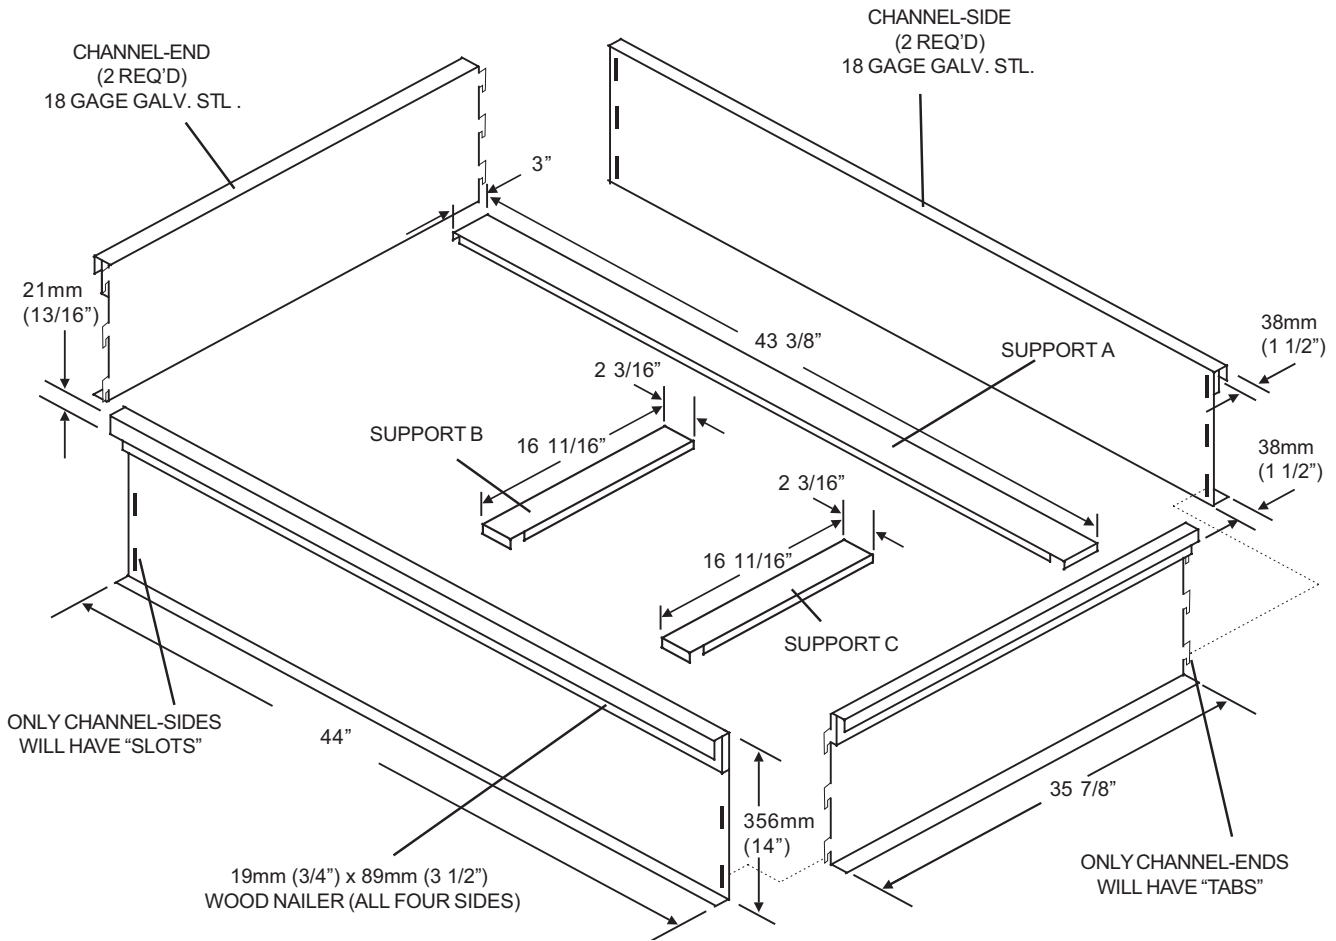

Figure 4. BAYCURB050A Component Drawing
4. See Figure 4, page 4, for components of curb.
3. Set supports A, B, and C onto channel sides and channel ends as shown in Figure 4 (below).